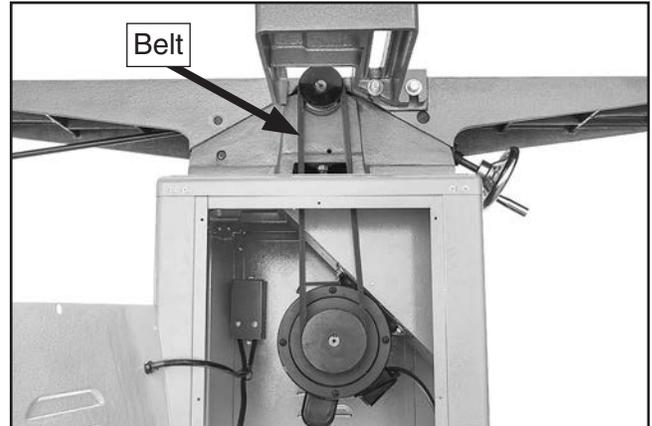

Figure 15. Example of belt installed onto cutterhead and motor pulleys.
- Slide motor upward, place belt around cutterhead and motor pulleys, then slide motor down to rest on belt (see **Figure 15**).